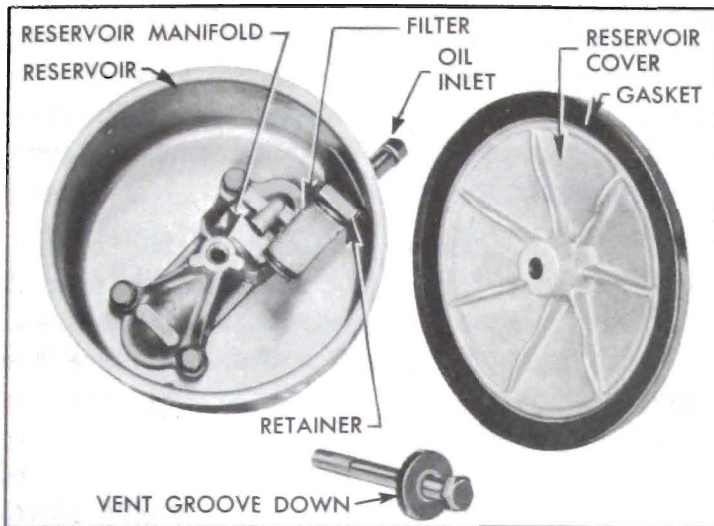

Figure 8-41—Reservoir with Cover Removed (Standard Pump)
2. Remove reservoir cover, drain out all oil and remove filter screen and filter retainer by pulling the retainer. See Figure 8-41 and 42.